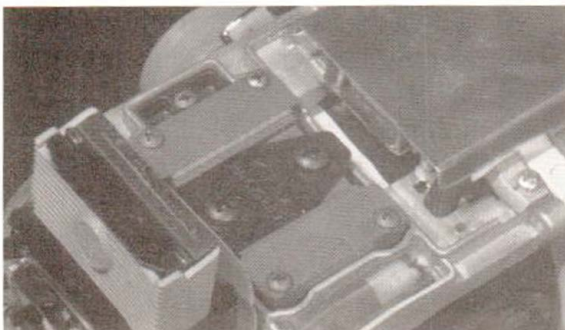

Figure 20. Handle Pivot Spring Assembly Replacement
B. See Figure 20. Remove two Phillips head screws from bracket tab.